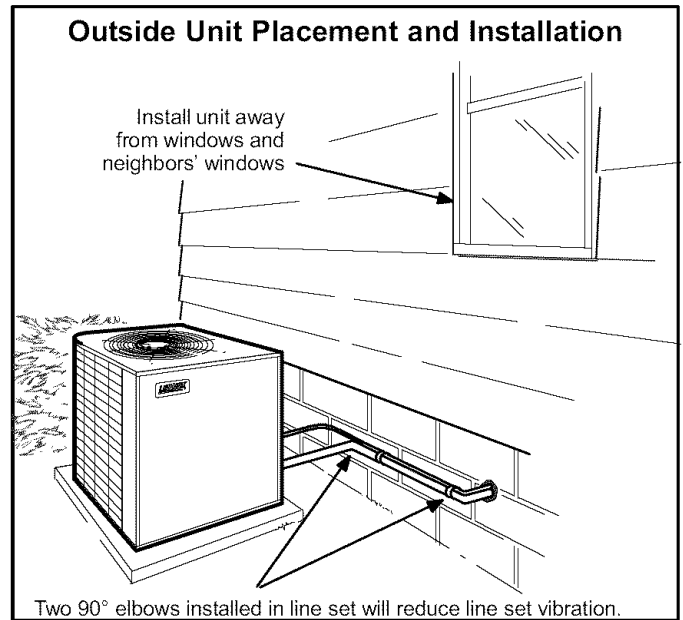
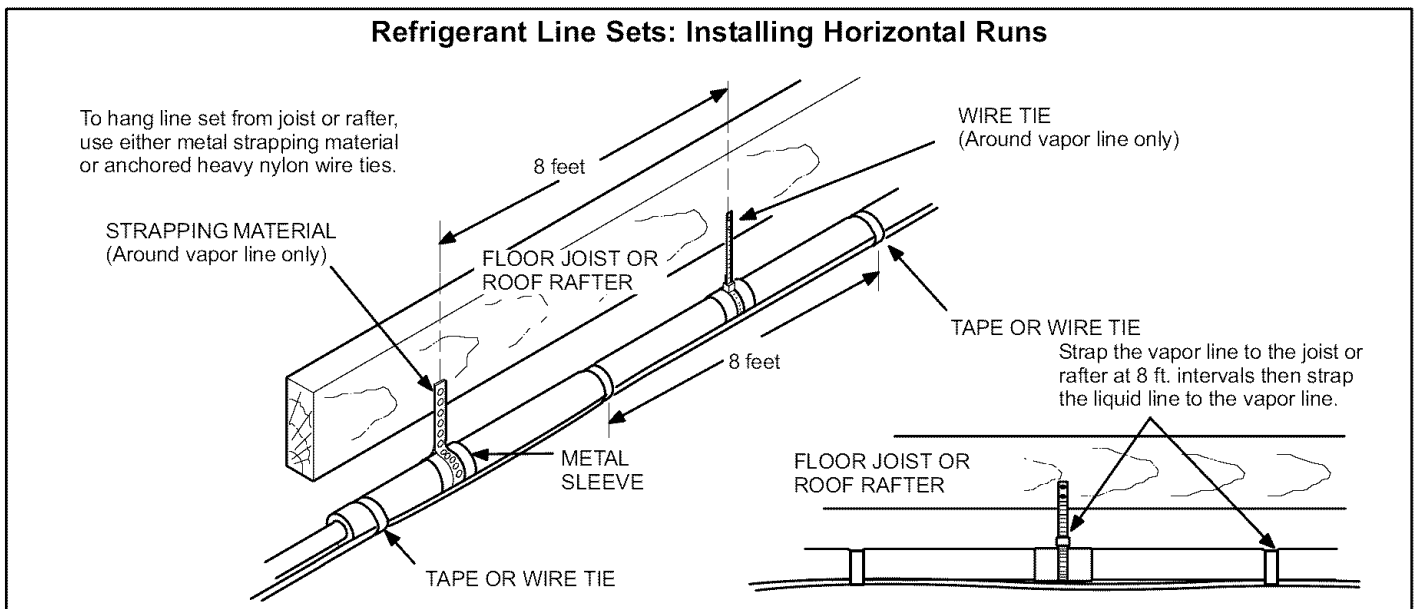
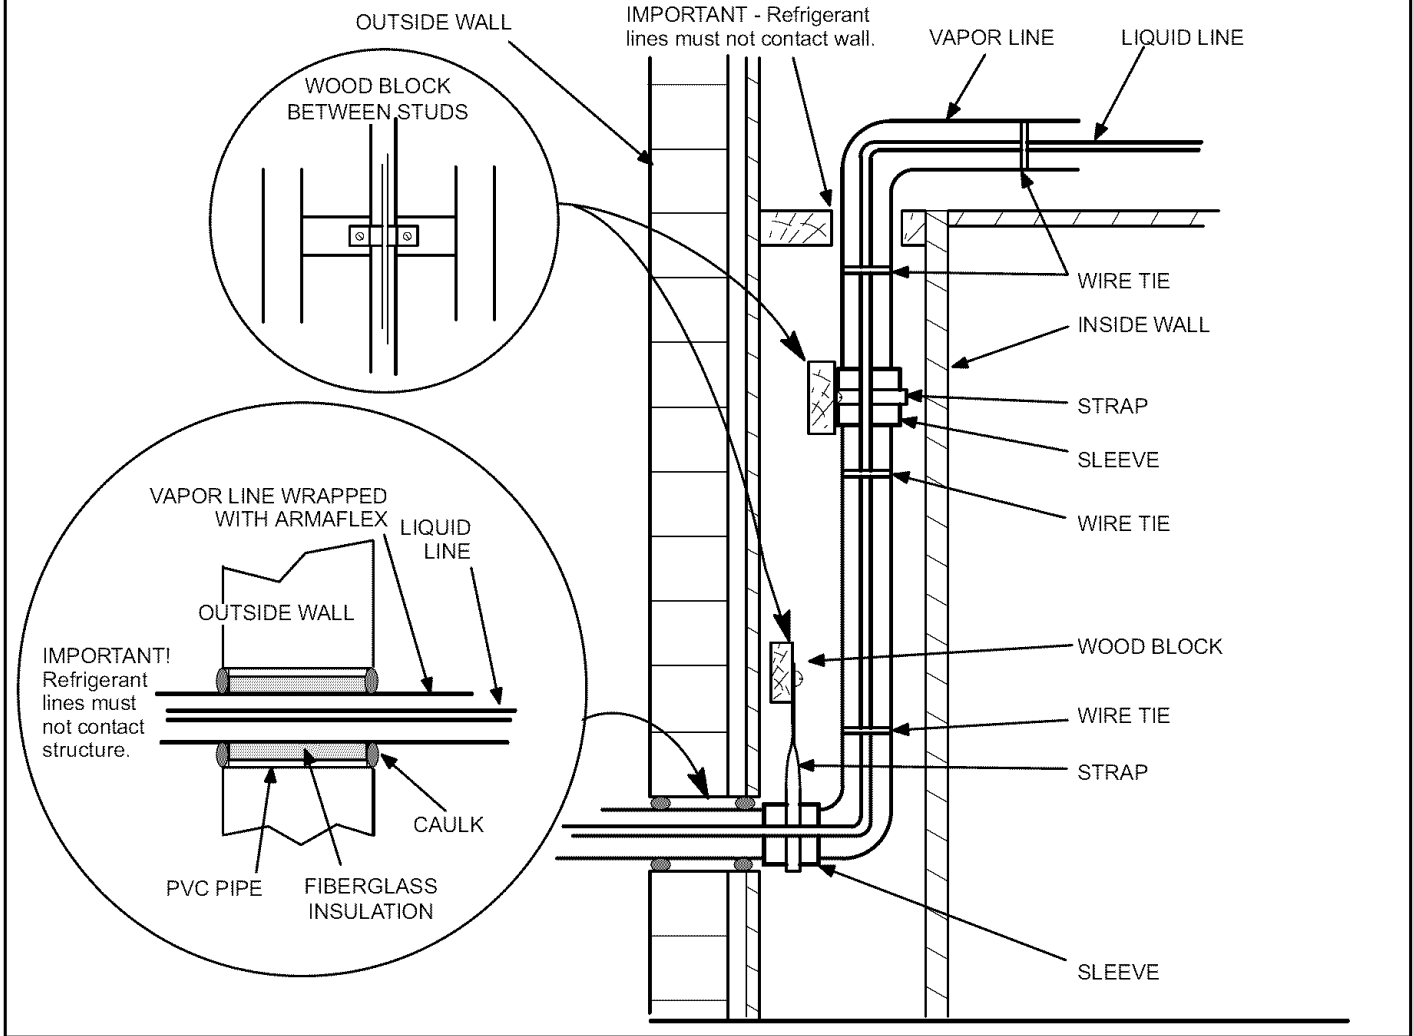
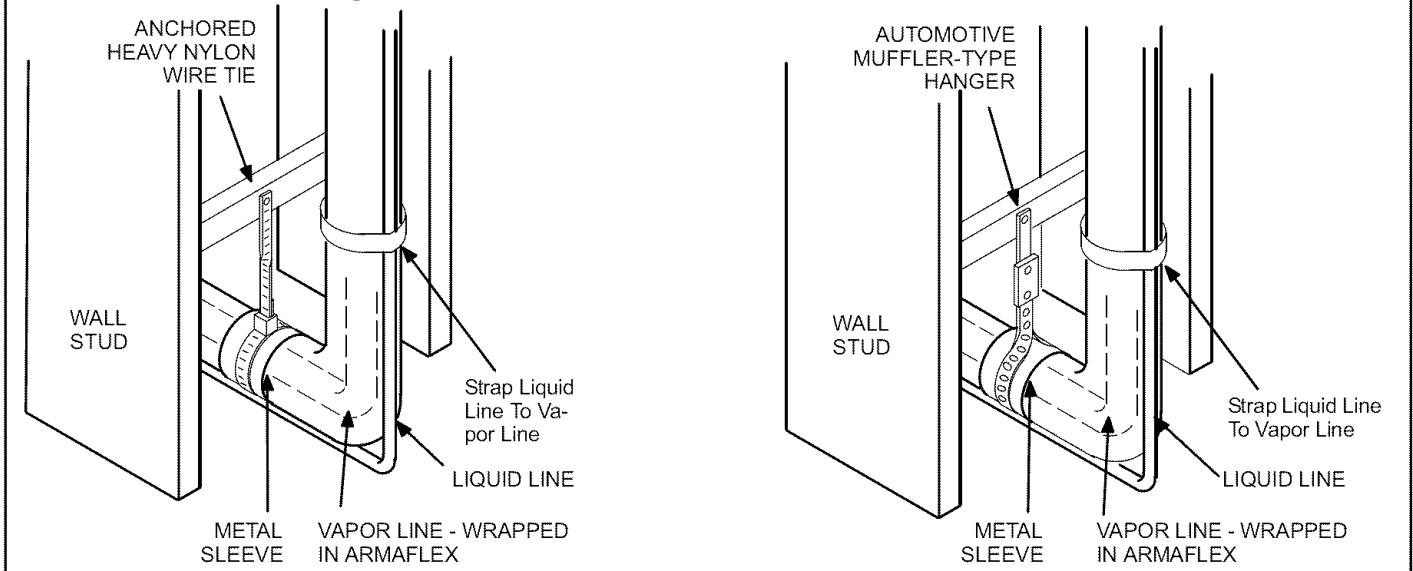

Figure 6
Figure 7
Figure 8
Figure 9
- 2. Line Set Isolation** - The following illustrations demonstrate procedures which ensure proper refrigerant line set isolation. Figure 6 shows how to place the outdoor unit and line set. Figure 7 shows how to install line sets on horizontal runs. Figure 8 shows how to install line sets on vertical runs. Finally, figure 9 shows how to make a transition from horizontal to vertical.